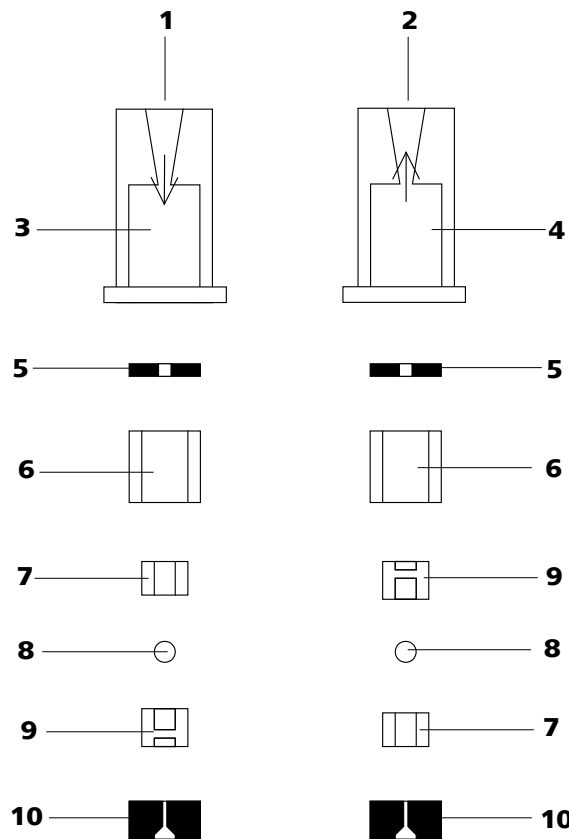

Figure 49 Components of the inlet valve and outlet valve
- The inlet valve and the outlet valve consist of the same, just differently arranged components (see figure 49, page 85).
Reassemble valve components *according to figure 49, page 85*.
- Lay the other valve components above another in the correct sequence (*see figure 49, page 85*).
If this is not the case, the valve has to be dismantled again and be reassembled correctly (*see figure 49, page 85*).